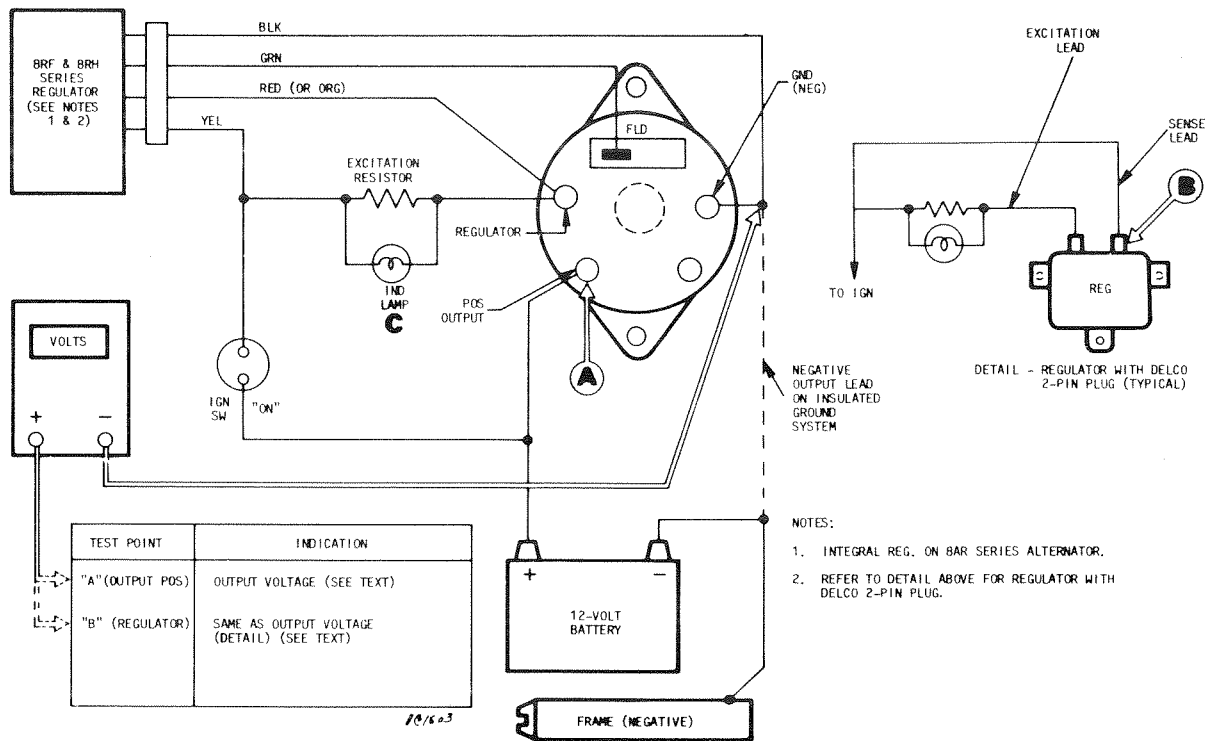

FIG. 3-18 REGULATOR TEST (SHORTED)
**CONDITIONS:** Engine idling (after connecting voltmeter as shown in Figure 3-18).